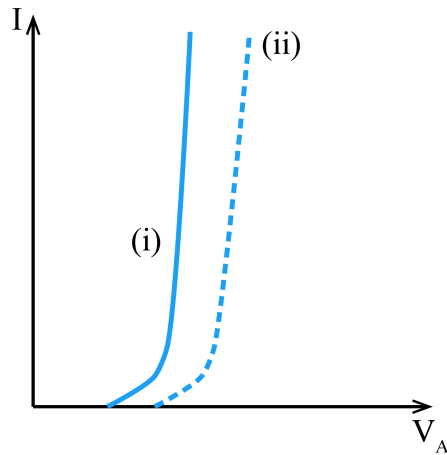

Figure 3: Two Schottky diodes
9. (1 mark) The I-V characteristics for two Schottky diodes (i), (ii) are shown in the figure 3 below. Let $|\Phi_B|_i$ and $|\Phi_B|_{ii}$ be the barrier heights for Schottky diodes (i) and (ii), respectively; similarly, $|J_s|_i$ and $|J_s|_{ii}$ be the saturation current densities, respectively.